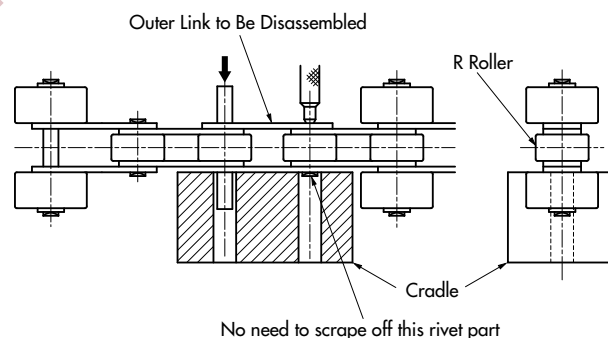

Figure 14: Removing the Pins
- 6) If outboard rollers are spaced every two or more links, the rivet parts to be sheared off will differ from those shown in the above diagram. (See Figure 14.)